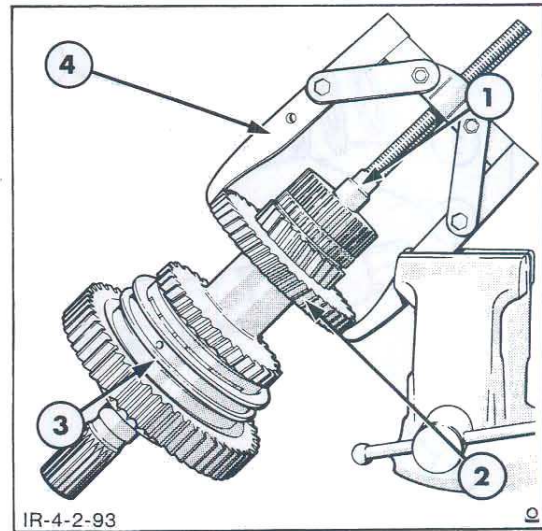

Figure 94
2. Attach a puller, Tool No. 1003 or 9516 with shaft protector Tool No. 625A or 9212 to the 2nd gear driven and remove the front bearing, coupling, 4th gear and the 2nd gear driven and high range gear cluster, Figure 94.